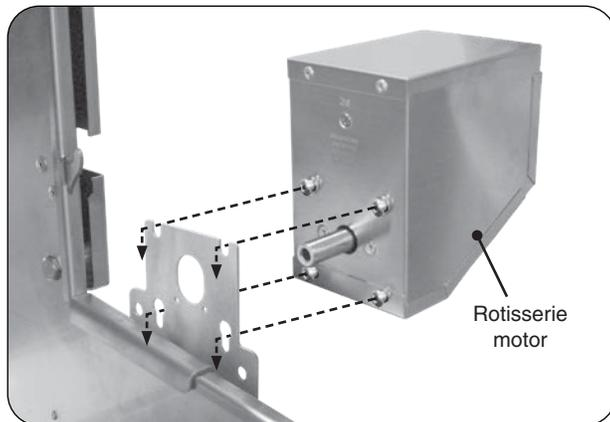

Fig. 33-2 Install rotisserie motor
2. Slide the rotisserie motor fully onto the motor bracket located on the right side of the grill (see Fig. 33-2) and connect it to a power source (do not turn on).